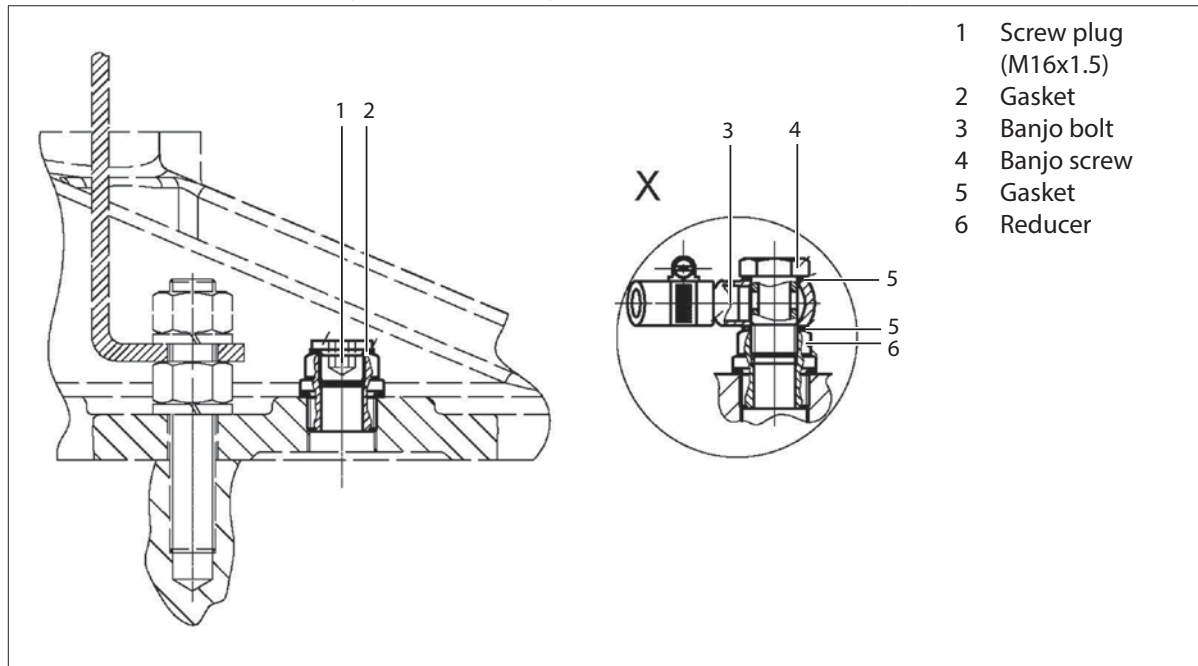

Fig. 13: Accessory set, Part 3: Hollow screw and two gaskets
1. Remove the screw plug (1) marked with a red dot and the gasket (2) underneath it. Both are no longer required for operation.
2. Into the open threaded hole of the reducer (6), screw the banjo bolt (3) of the connection hose according to Fig. 13, detail X with new gaskets (5) and new hollow screw (4), taking into account the arrangement of the components.